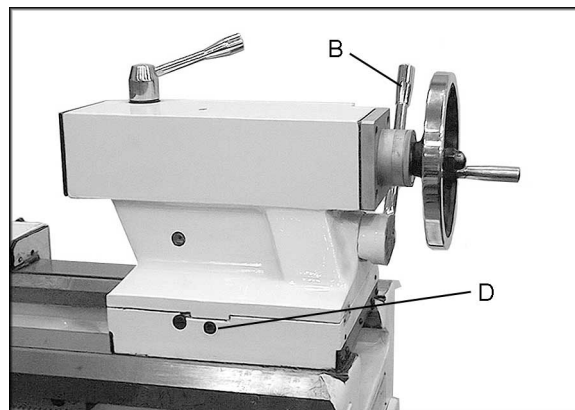

Figure 18
1. Loosen tailstock in position by lowering locking handle (B, Figure 18) and loosening hexagon head eccentric shaft at back of tailstock.
2. Alternately loosen and tighten front and rear screws (D, Figure 18). **Note:** Front screw is shown.